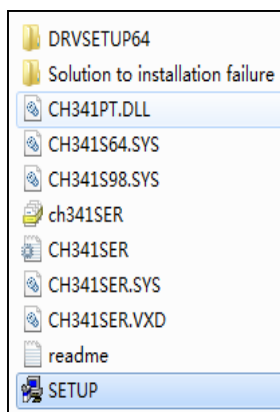
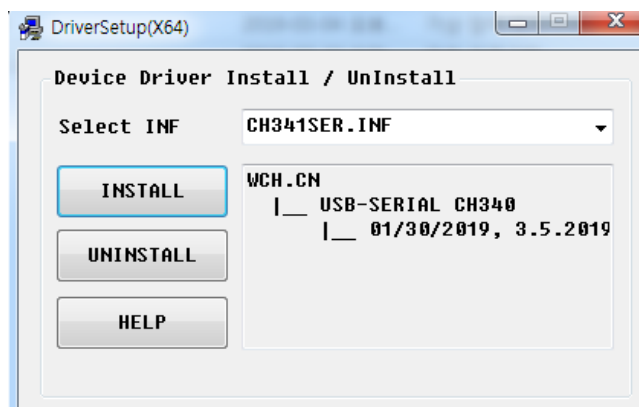
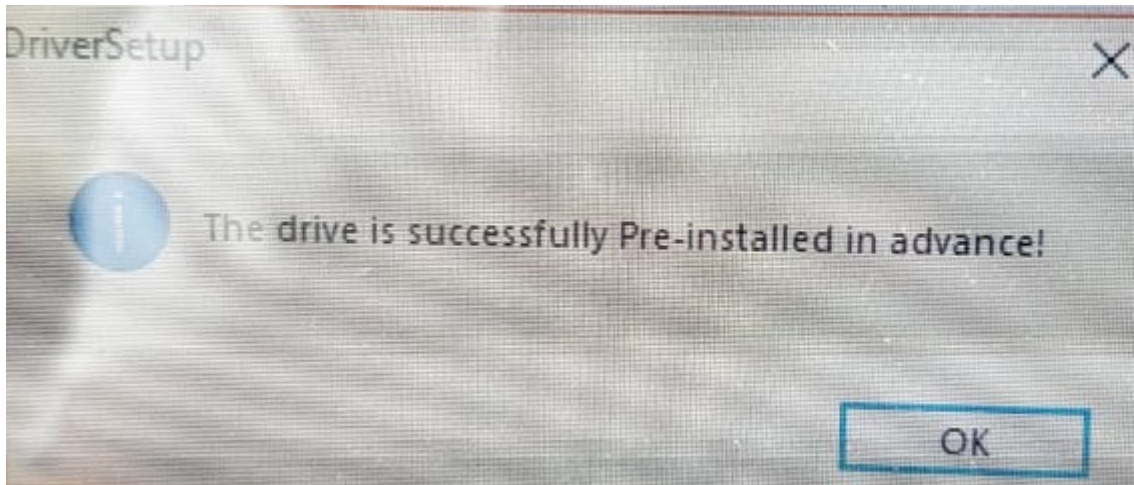

Figure 13
Figure 14
Figure 15
2) Go to the page of Figure 13, click "SETUP" to enter the installation interface (Figure 14), click "Install", enter the interface of Figure 15, to display "Drive installation completed", click "OK", the driver installation is complete.